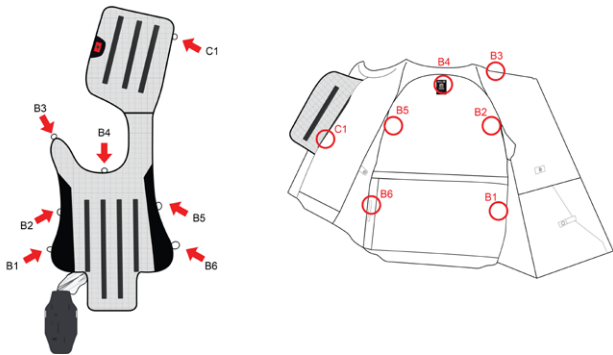

Figure 14
4. Detach the Airbag from the vest by opening all the connection clips. The clips are arranged as shown in the Figure 14.